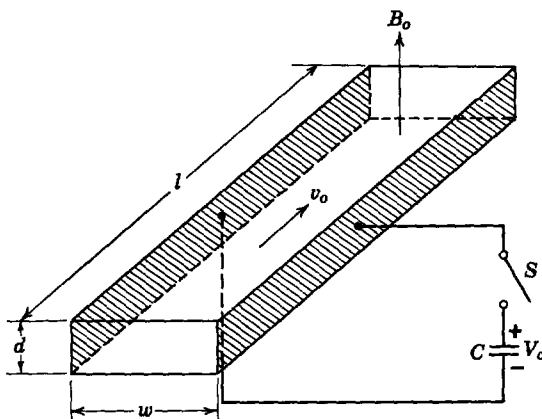

Fig. 12P.33
12.34. This problem is similar to the example worked in Section 12.2.1b. A U-tube of constant, rectangular cross section contains an inviscid, incompressible conducting fluid of mass density ρ and conductivity σ . The fluid has a total length l between the two surfaces which are open to atmospheric pressure as illustrated in Fig. 12P.34a. A conduction type MHD machine of length l_1 is inserted at the bottom of the U-tube. The details of the MHD channel are illustrated in Fig. 12P.34b. Neglect end effects and the magnetic field due to current flow in the fluid. The system parameters are